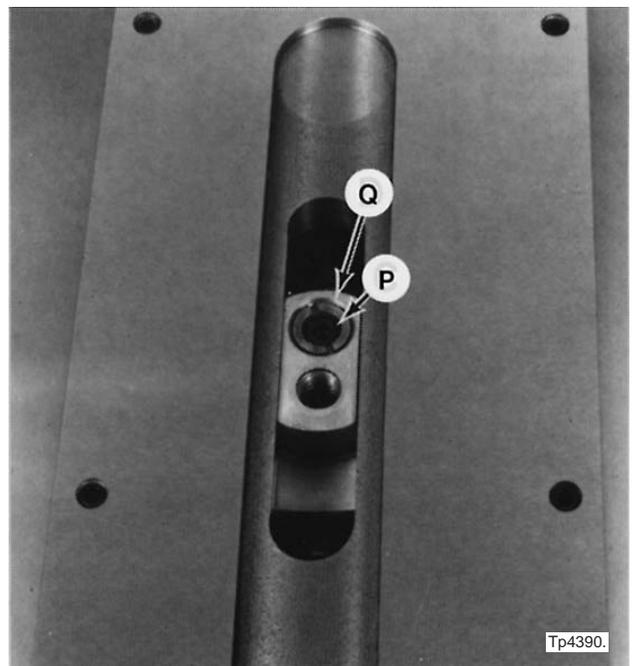

Figure 2.7 - Nut for Cross Slide Feed Screw
3. Loosen screw "P", Figure 2.7 .